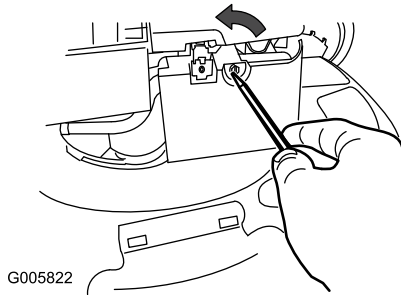

Figure 22
1. Use a screw driver to open the air-filter cover (Figure 22).